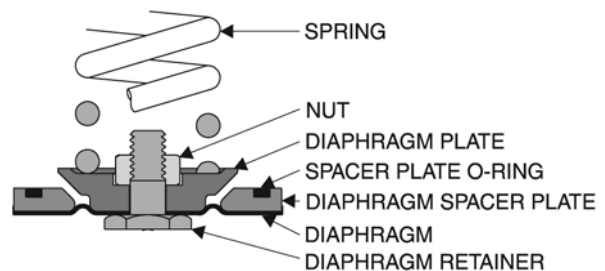

Figure 26. Insert Body Insert (Cartridge) with lubricated Stem O-Ring into the Pilot Body.
1. **Diaphragm Assembly:** Install the Pilot Diaphragm with convex side toward Diaphragm Plate and Main Spring (refer to Figure 26). Tighten nut on the Diaphragm Retainer to approximately 5 to 6 ft-lbs torque.
- Place Diaphragm Assembly in the pilot body with the diaphragm touching the grooved sealing surface of the pilot body and the O-Ring facing up. (Refer to Figure 26 & Figure 27).